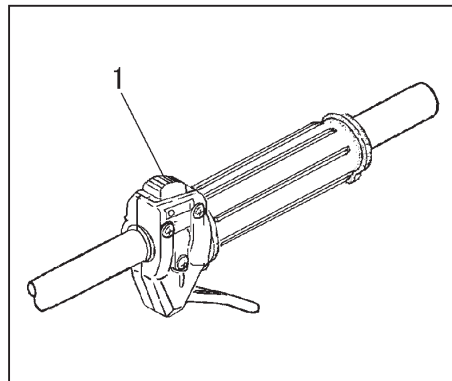

Fig. 2-2
Starting (Fig. 2-2, 2B)
1. Set ignition switch (1) to ON position. (Fig. 2-2, 2-2B)